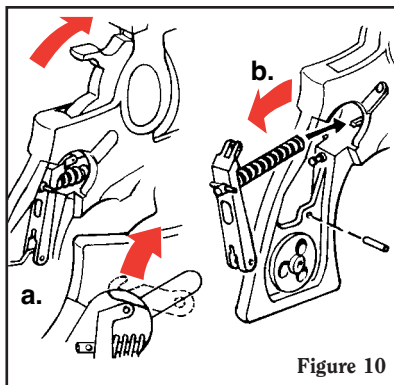
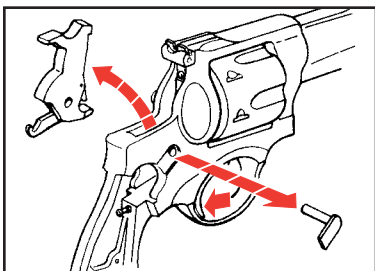

Figure 10
Figure 11
4. With a thumb on the hammer spur, squeeze the trigger, keeping pressure on the hammer with your thumb to allow the hammer to go fully forward slowly. Remove the hammer pivot assembly. With the muzzle pointing down, slowly lift the hammer upward and out of the frame (See Figure 11, p. 22). It may be necessary to move the mainspring lever forward in order to cause the hammer link hook to detach from the mainspring lever (See Figure 10 a.). If careful manipulation of the hammer and trigger does not disengage the hook, disengage it with the tip of a jeweler's screwdriver or similar device when the hook is in a near-off position.
5. Push the lever pivot pin out with a small punch or nail and remove the mainspring lever from the frame with mainspring and strut intact. Removal can best be accomplished by twisting the lever slightly as the assembly is drawn from the frame toward the rear (See Figure 10 b.).
The information below applies only to those revolvers in which the Hammer Link (KH06900) is assembled to the hammer with the link hook pointing downward, as illustrated in Figure 10 below.